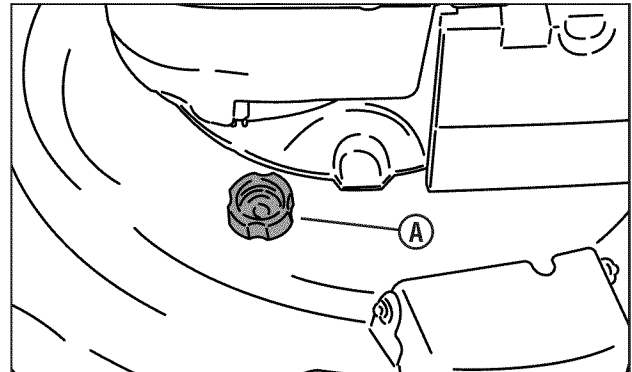

Figure 16: Washout port
5. Connect the male end of a standard garden hose to the washout port connector (**A, Figure 16**).